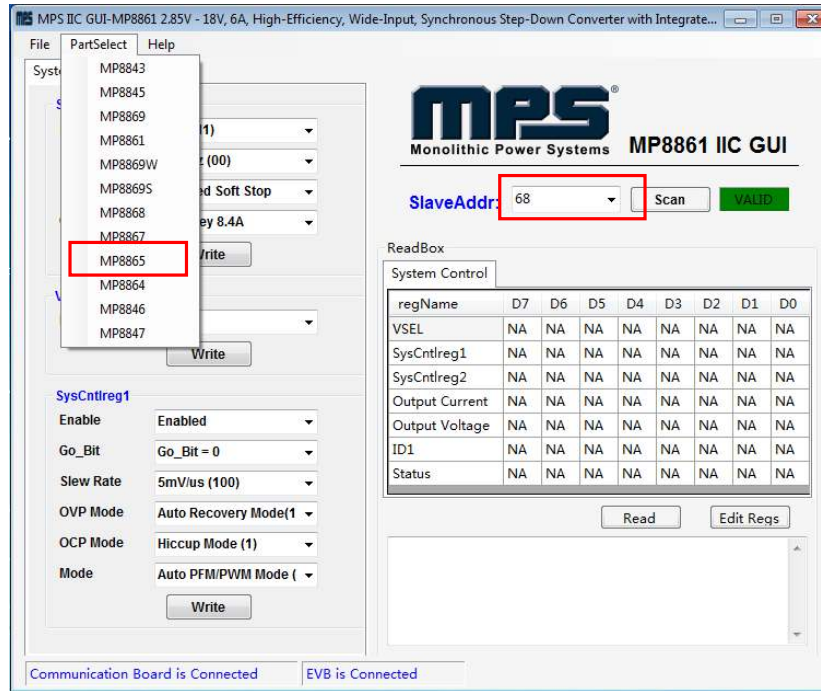
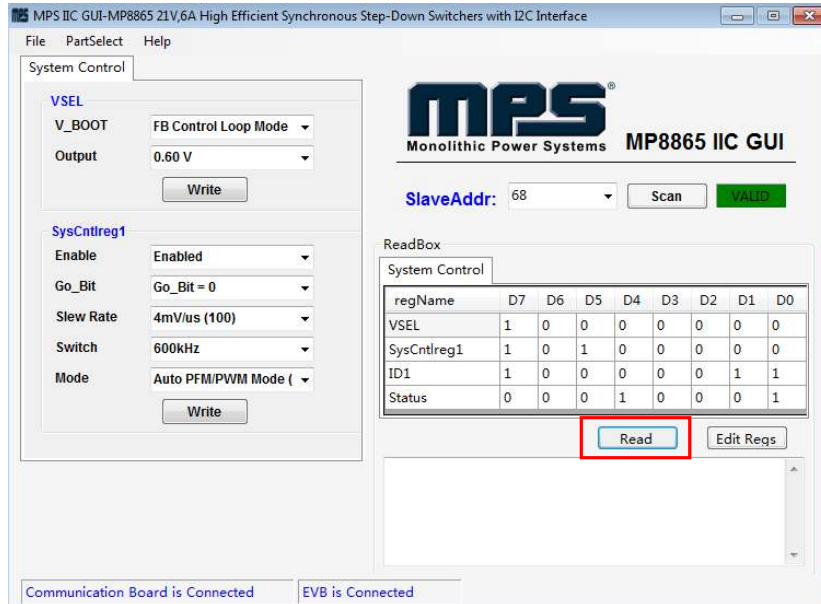

Figure 7: Appearance of Address Shows Successful Connection
Figure 9: Values from I²C Shown in Table
- If connection is successful, the address will be listed in the “Slave Address” (see Figure 7).
3. Click the **“PartSelect”** button to select the MP8865 (see Figure 7) (The default GUI window is for the MP8861). The Register Control menu will appear on the left side. The I²C register values will be read and displayed on the right side after clicking the **“Read”** button (see Figure 9).